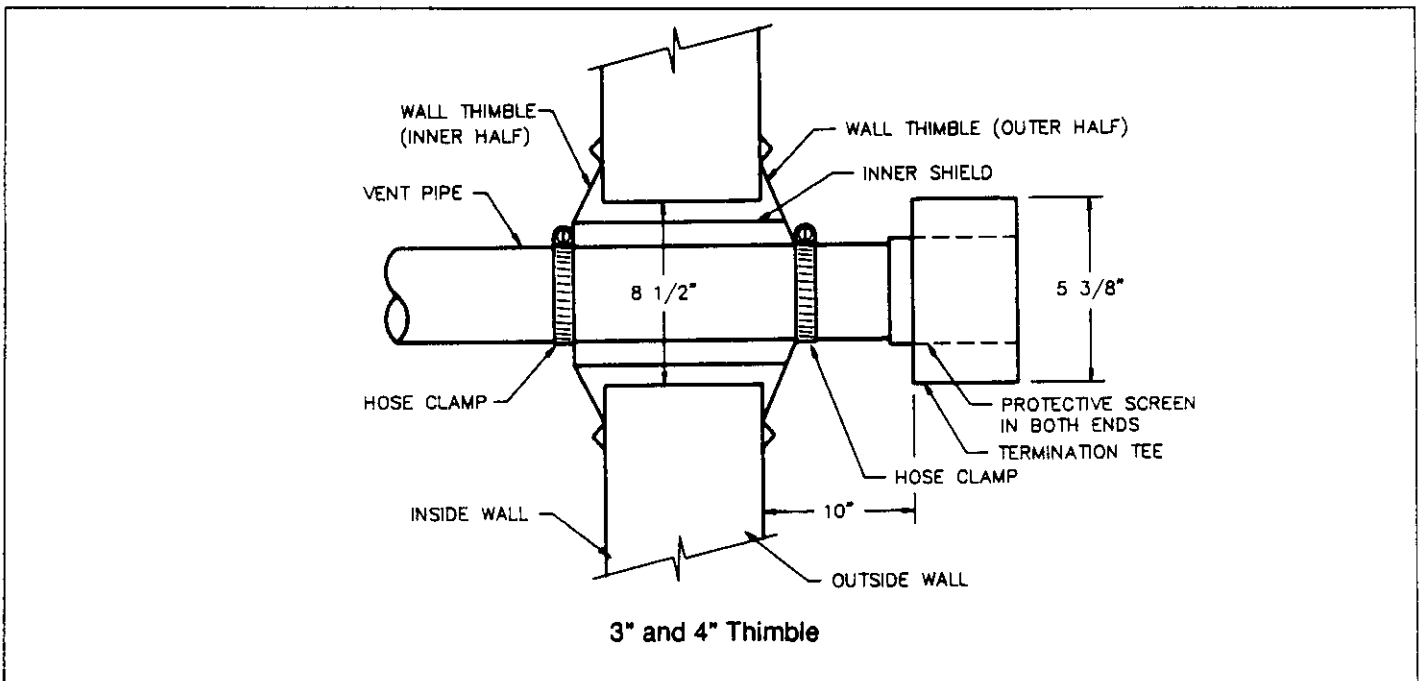

Figure 6
NOTE: Use Figure 6 in conjunction with instructions below to properly install wall thimble.
5. To prevent vent pipe from moving in thimble, attach stainless steel hose clamp to both pipe ends extending from thimble. See Figure 6.
- c. The inside of the termination tee must be a minimum of 10 inches from outside wall. See Figure 6 for a correctly completed installation.